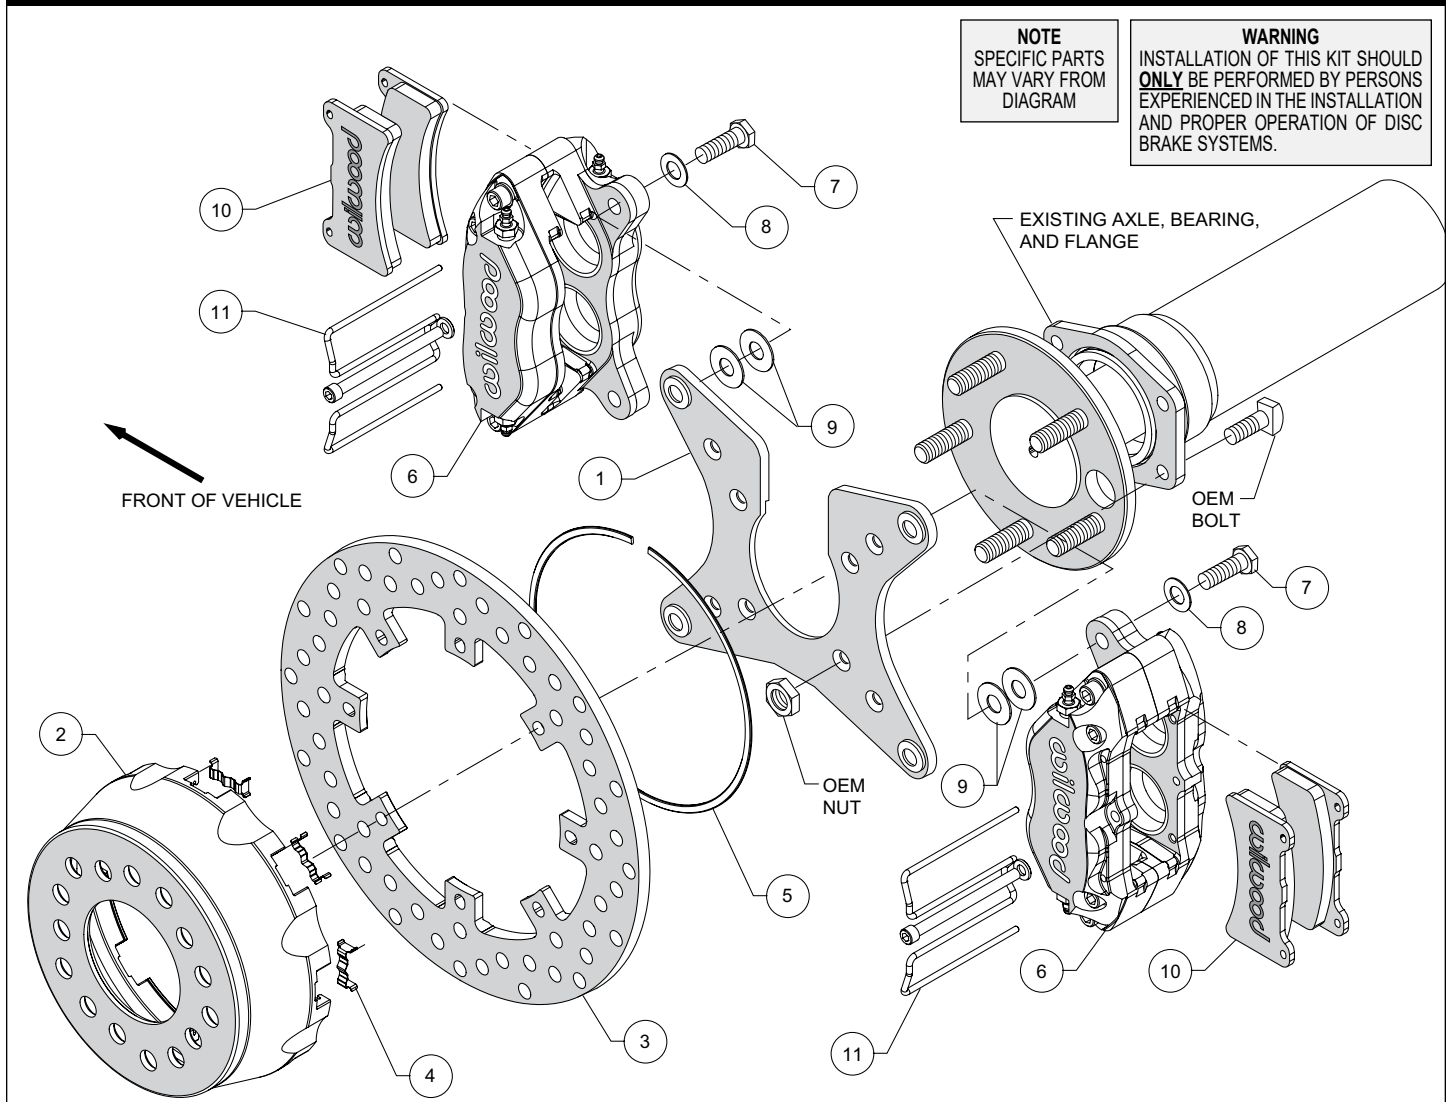
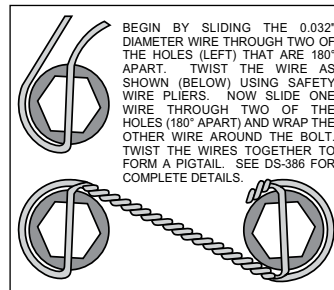
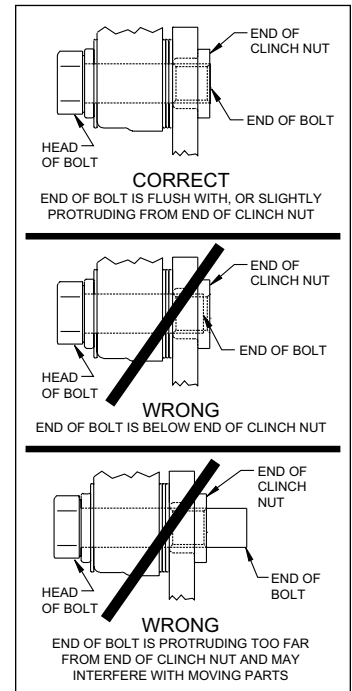

Figure 1. Typical Installation Configuration
Figure 4. Safety Wire Diagram
Figure 5. Clinch Nut Engagement Diagram
Assembly Instructions (numbers in parenthesis refer to the parts list and Figure 1 on the preceding pages): **CAUTION:** All mounting bolts must fully engage clinch nuts. Be sure to check that all bolts are either flush or protruding through flanged side of clinch nut after shimming, Figure 5.
- Install the caliper mounting bracket (1), with the slot for the axle pointing upward, to the housing flange using the OEM bolts and nuts, as shown in Figure 1 and Photo 1. Ensure that the caliper mounting ears on the bracket are oriented fore and aft on the car, with the heads of the clinch nuts facing outboard, Photo 1. Apply red *Loctite*® 271 to the OEM bolt threads and torque to OEM specifications.
- Insert the dynamic mount wear clips (4) into the slots in the hat (2) making sure the tabs snap in place, Photo 2. Orient the rotor (3) as shown in Figure 1 and Photo 3, with the flush mount tab side facing the hat. Attach the rotor to the hat using snap ring (5) by pushing down on the rotor and installing the ring into the groove in the hat, as shown in Photo 4. Ensure that the ring is fully engaged in the groove.
- NOTE:** Please reference the caution statement at the beginning of the assembly instructions. Mount one caliper (6) onto the mounting bracket (1) using bolts (7) and washers (8), as shown in Figure 1. Initially place two .035" thick shims (9) on each bolt between the caliper and the bracket, Photo 5. Temporarily tighten the mounting bolts and view the rotor (3) through the top opening of the caliper. The rotor should be centered in the caliper, Photo 6. If not, adjust the caliper by adding or subtracting shims between the bracket and the caliper. Always use the same amount of shims on each of the two mounting bolts. **NOTE:** The end of each bolt must be flush with or slightly protruding from the head of the clinch nut. If necessary, place spare shims between washer and caliper mounting ear to achieve the proper clinch nut engagement, as shown in Figure 5. Once the caliper alignment and clinch nut engagement are correct, remove the bolts one at a time, apply red *Loctite*® 271 to the threads, and torque to 40 ft-lb. For an added measure of security, the bolts may be safety wired using standard 0.032 inch diameter stainless steel safety wire as shown in Figure 4. Please refer to Wilwood's data sheet DS-386 (available at www.wilwood.com/Pdf/DataSheets/ds386.pdf) for complete safety wire installation instructions. Repeat this procedure for the second caliper.